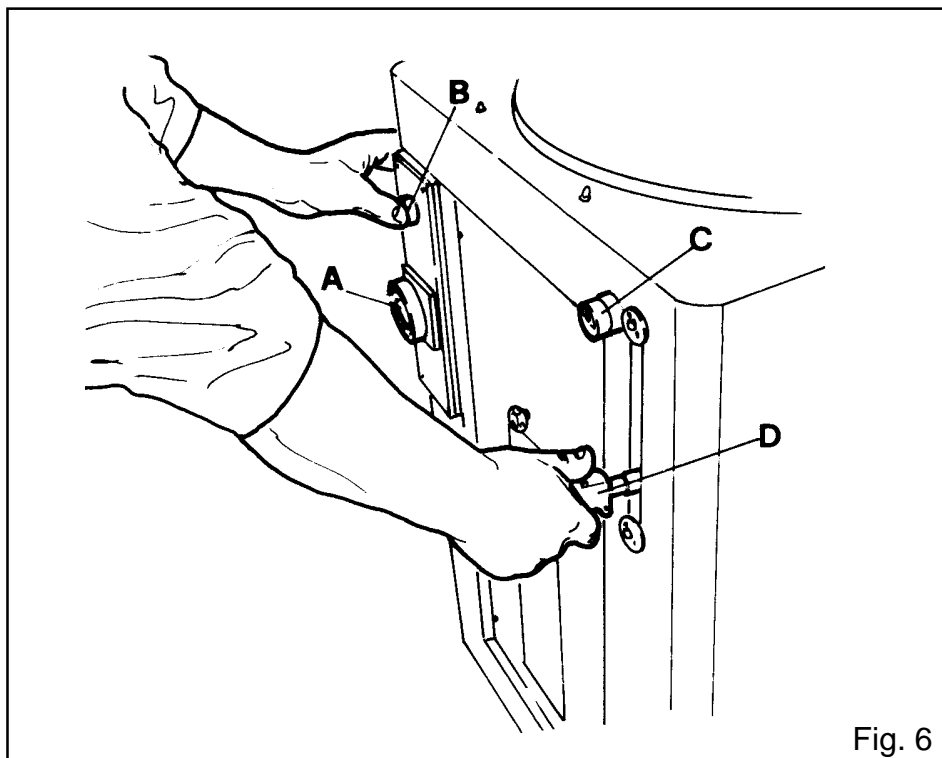

Fig. 6
- Start selector C (Fig. 6) to close the clamps.
- Turn the main switch A (Fig. 6) to give voltage to the machine.
- Grasp lever D (Fig. 6) for the raising of the blade, pressing push button B (Fig. 6) to obtain the starting of the engine.